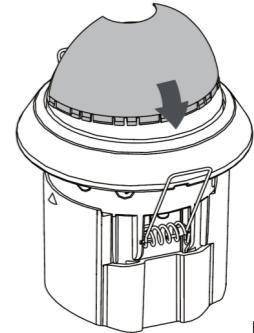

FIG. 11
4.3.2 Fixing lens shield: There is circular hook on the back of the decorative frame and the lens shield is designed with a circular groove. The lens shield can be fitted by joining the groove of lens shield with its corresponding hook on the decorative frame (See FIG.11).